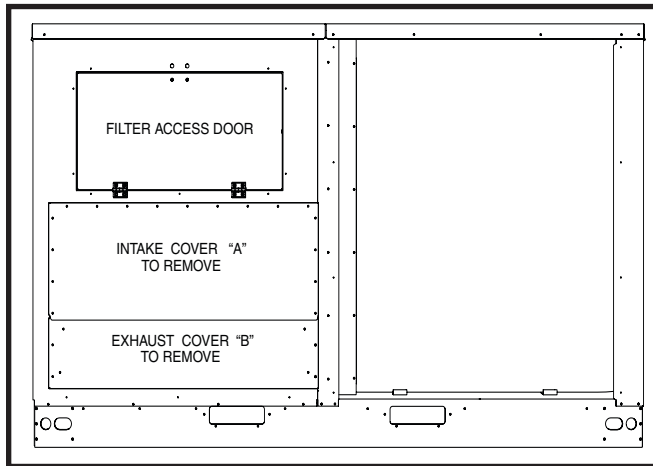

Figure 1. Covers To Remove
2. Remove and discard covers "A" and "B" to expose back panel area that needs removed. See Figure 1.